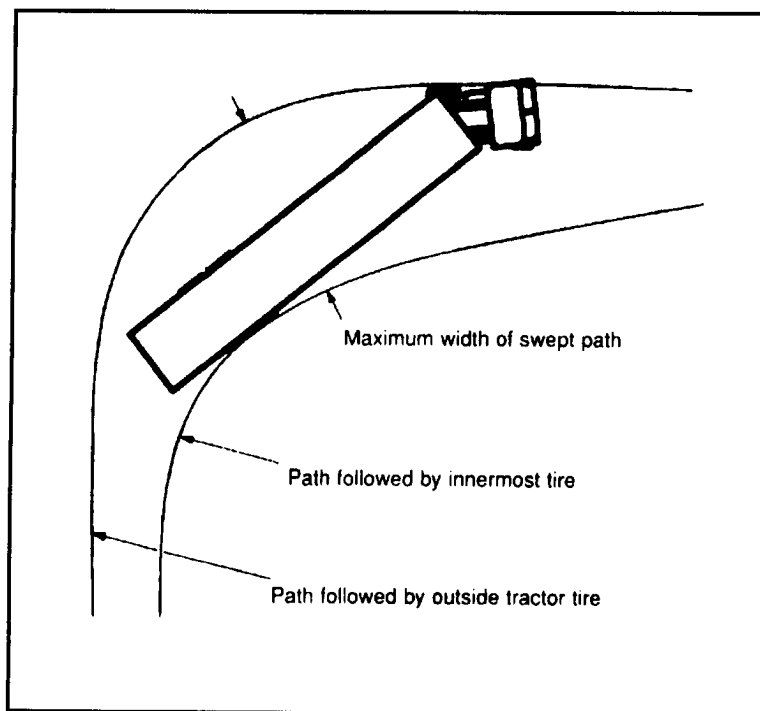
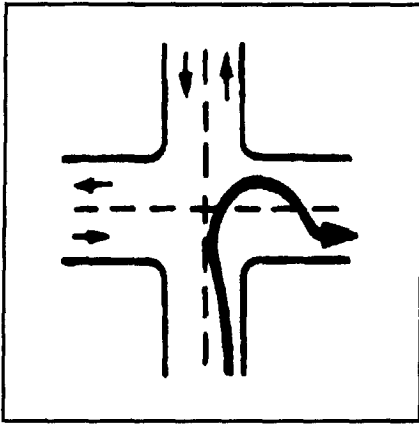
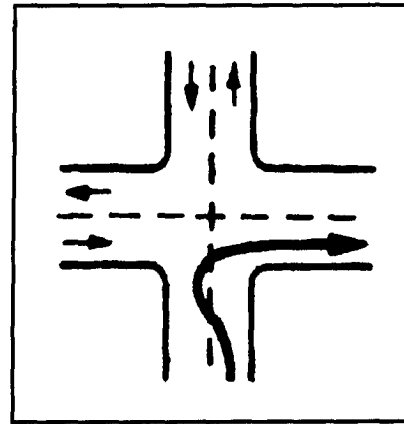

Figure 6-4. Off-tracking in a 90-degree turn
Figure 6-5. The right way to turn
Figure 6-6. The wrong way to turn
- When a vehicle goes around a corner, the rear wheels follow a different path than the front wheels. This is known as off-tracking or cheating. Figure 6-4, page 6-4, shows how off-tracking causes a tractor-semitrailer's path to be wider than the vehicle itself. Longer vehicles will off-track more. The powered unit's (truck or tractor) rear wheels will off-track some. The trailer's rear wheels will off-track even more. If there is more than one trailer, the last trailer's rear wheels will off-track the most. Steer the front-end wide enough around a corner so the rear end does not run over the curb, pedestrians, or other vehicles. However, keep your vehicle's rear near the curb to keep other drivers from passing you on the right. If you cannot turn without entering another traffic lane, turn wide as you complete the turn (Figure 6-5, page 6-5) rather than swinging wide to the left before starting the turn (Figure 6-6, page 6-5). This will keep other drivers from passing you on the right. If drivers pass on the right, you might crash into them when you turn.
5. Why should you not turn as shown in Figure 6-6?